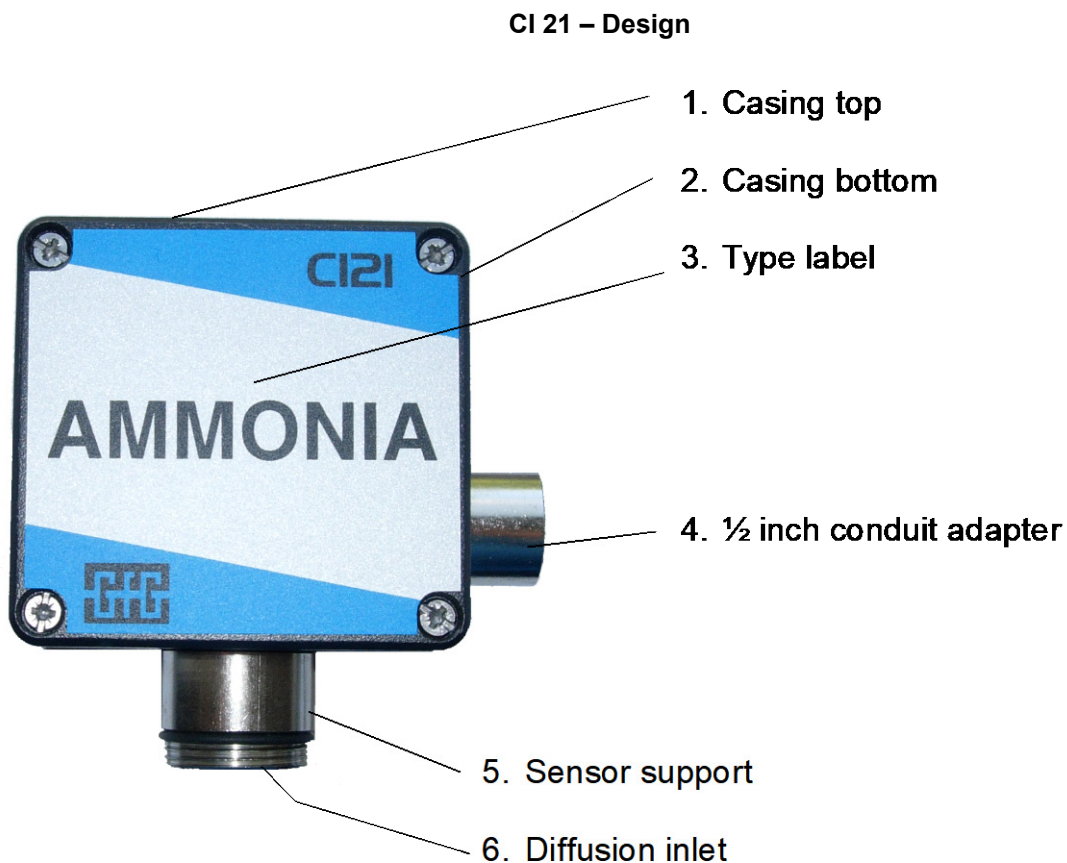

Figure 2
The design of the CI 21 is shown in figure 2. The sensor is mounted in the sensor support (pos. 5). Gas enters the sensor chamber through the diffusion inlet (pos. 6). The electronics convert the measurement signal into the output of 0.2–1 mA or 4–20 mA, which is then transferred to the controller by a cable.